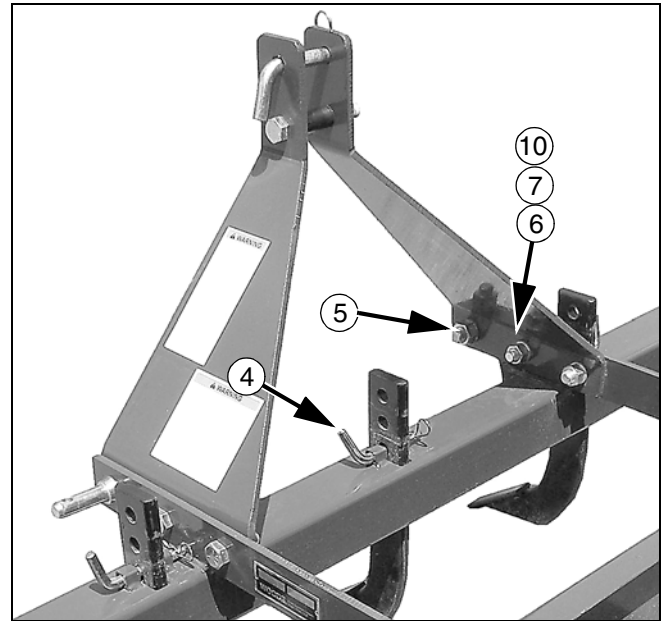

Figure 10. A-Frame Support Bars & Scarifiers Assembled
1. Place the A-frame hitch over the three corresponding holes on the inside of the scraper frame as shown in Figure 10.
2. Secure the hitch pin (5) with lock washer and nut. Repeat for opposite side.
3. Finish securing the frame by installing the four sets of bolts (10), nuts (6) and washers (7).
4. Remove lock pins (4) and scarifiers. Rotate scarifiers so teeth face forward and replace in slots with lock pins and safety pins.